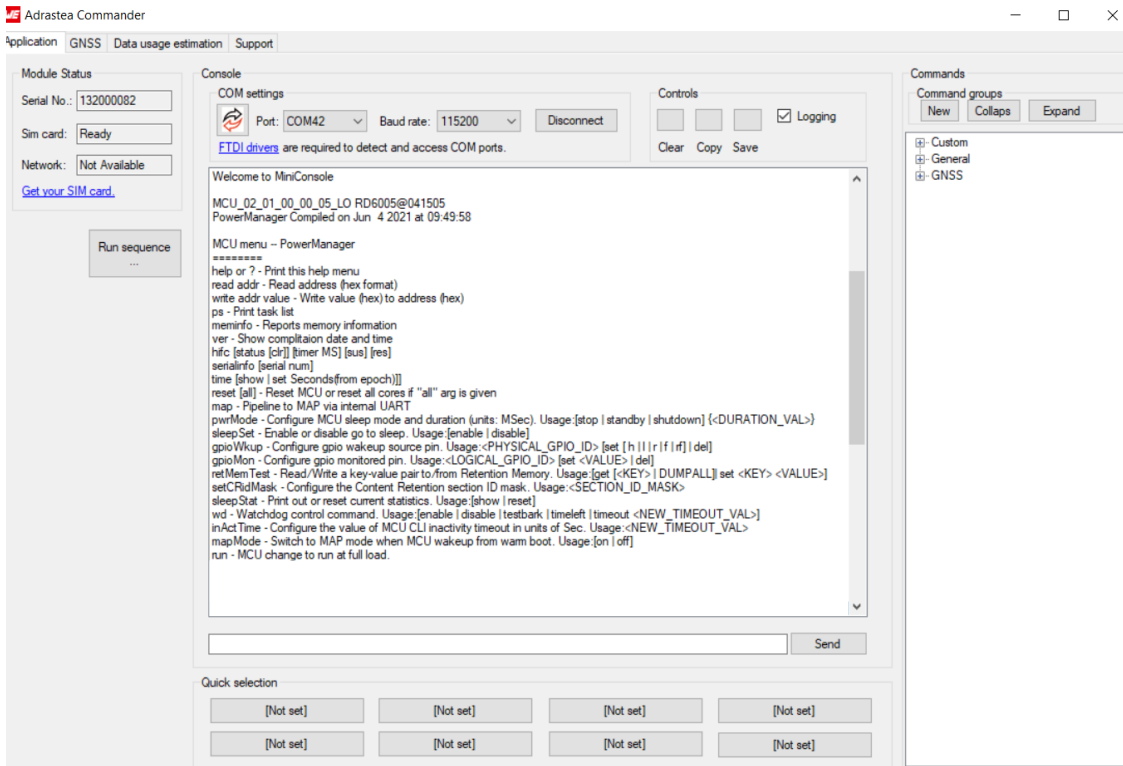

Figure 3: MiniConsole start view - Adrastea Commander
- Step 7: Press the reset button to ensure a clean start-up of the module. See figure 3.